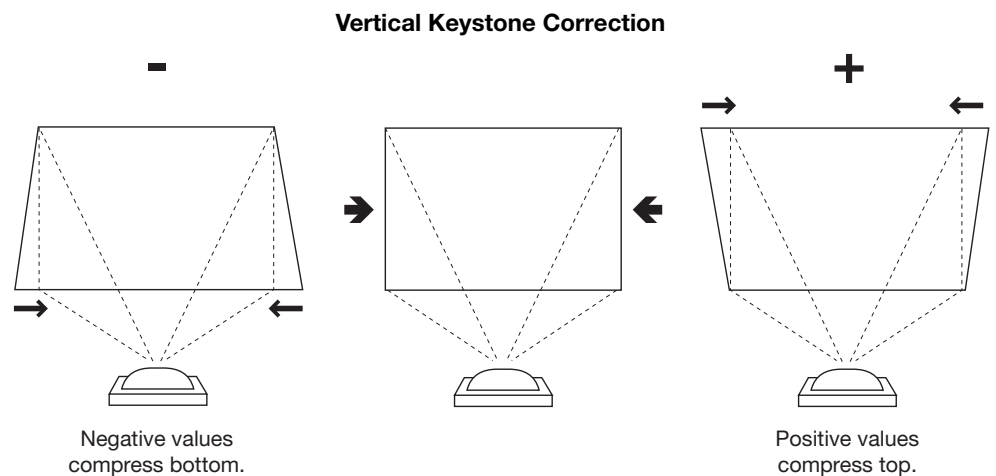

Figure 4-8. Keystone Correction
- **Installation – Vertical Keystone:** Projector placement and other factors can cause geometric distortion in the projected image. To correct this, select Vertical Keystone from the Installation menu and use the ◀ or ▶ button to make the image rectangular. See Figure 4-8.